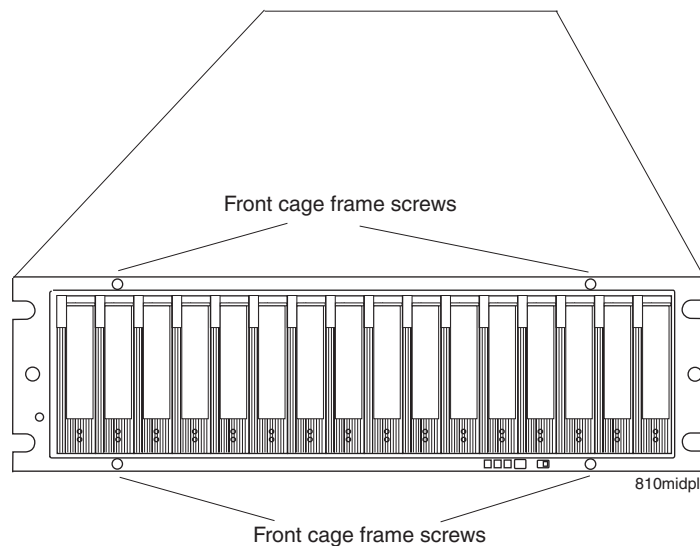

Figure 38. Front cage frame screw locations
10. Use a #1 Phillips screwdriver to loosen the four front cage frame screws on the midplane, as shown in Figure 38.
17. Tighten the four front cage frame screws. See Figure 38 on page 88.